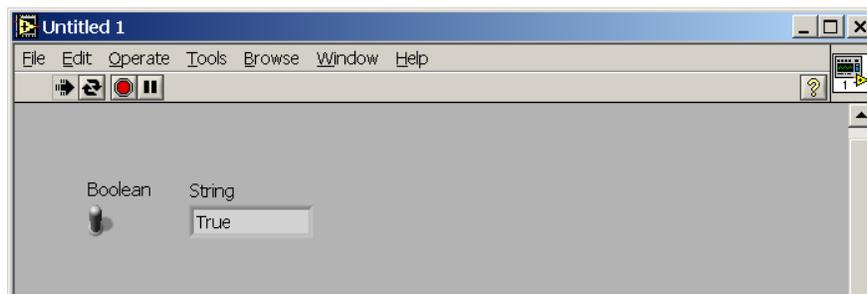

Figure 9
- You will notice that from the connections made in Step 5, the Boolean toggle switch acts as our input, and the Case Structure lets us define what will happen for the different boolean values. As a quick note, the Case Structure may also have a Combo Box (drop down menu) as an input if multiple case definitions are required. Feel free to jump back to the Front Panel and select Run Continuously. Toggle the switch and you'll see that for its two different values, True or False will be displayed in our string indicator. This can be viewed in Figure 9.